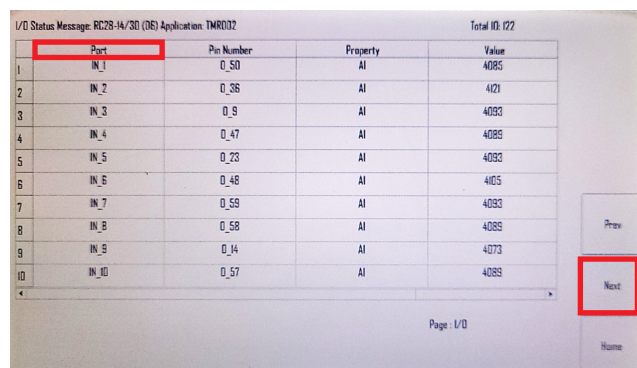

Figure 12: IO Screen
9. Press on the 'Next' button until 'Port' 'IN_28' and 'IN_29' appear on the screen; see Figure 12.